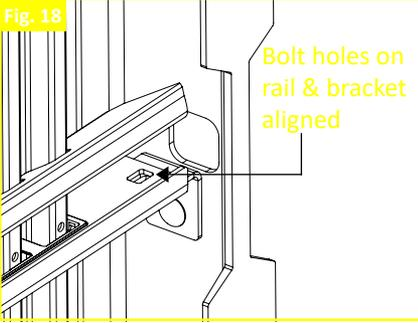

Fig. 19
5. Insert the 3/8" - 16 x 1" Square-Neck Carriage Bolt through panel and bracket bolt holes. As shown in Fig. 19.